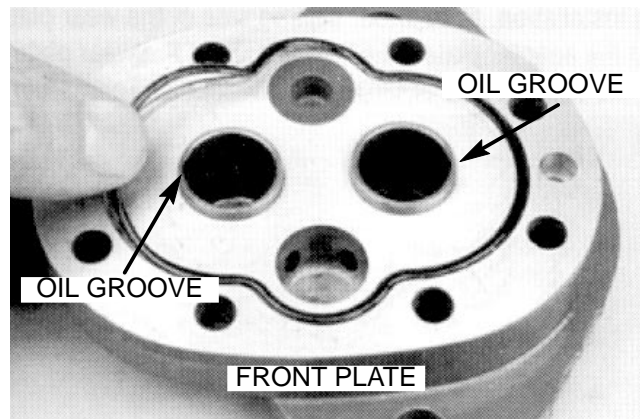

Figure 52
E. The oil groove in the bushings of the front plate should be opposite each other and in line with with the dowel pin holes. The oil groove in the bushings of the back plate should be about 37° to the pressure port (Fig. 52 and 53).